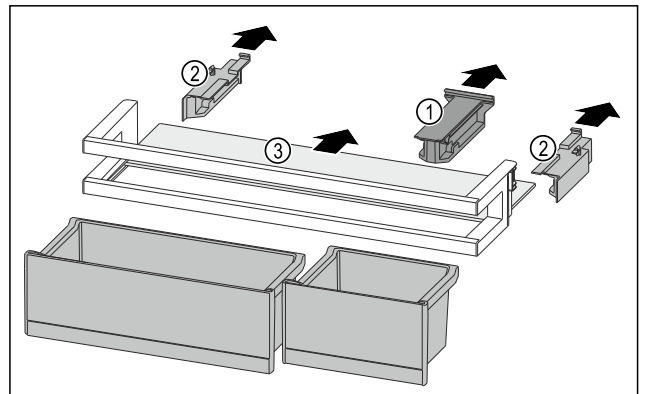

Fig. 236
- ▶ Pull off the holding part Fig. 236 (1).
- ▶ Pull off the side parts Fig. 236 (2).
- ▶ Remove the shelf Fig. 236 (3).